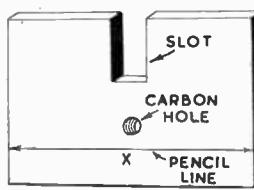

Fig. 4—The back support
A piece of plywood about 4ins. square is required for the base and two pieces of wood 1in. by  $\frac{1}{2}$ in. by 4ins. act as side supports. These may be pinned or glued into position. A stout piece of wood about  $\frac{1}{2}$ in. thick is chosen for the back support, and after it has been cut to suit the base it is prepared, as shown in Fig. 4. Its height should be such that the portion projecting above the base—(X) in Fig. 4—is about 2ins. greater than the length of the sharpened rod.